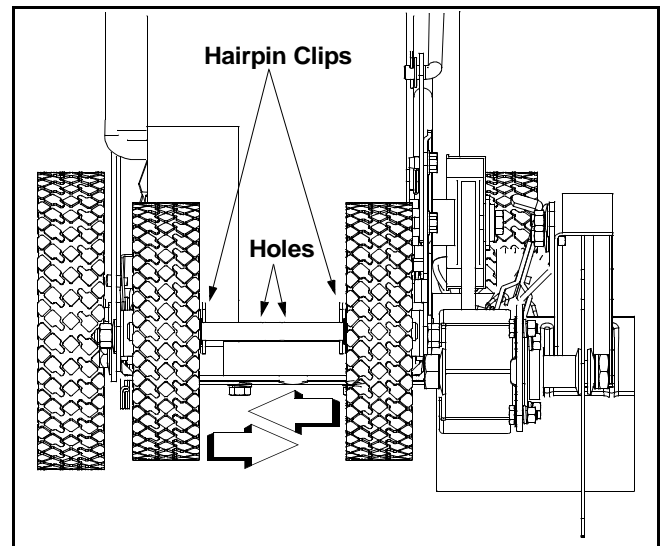

Figure 8
- To change position of the front, left wheel, remove the hairpin clip on the left. To change position of the front, right wheel, remove the hairpin clip on the right. See Figure 8.
- Reposition the wheel by sliding it down the front axle toward the opposite wheel. See Figure 8.
- Secure the wheel in its new location by inserting the hairpin clip removed earlier in the hole found immediately adjacent to it. See Figure 8.